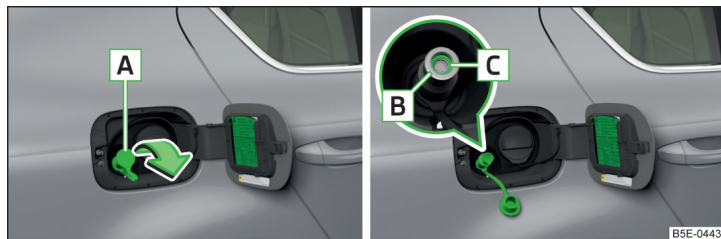

Fig. 175 Natural gas filler tubes
- Remove the cap » Fig. 175 in direction of arrow of the gas filler tubes .
- Check that the sealing ring » Fig. 175 has remained inserted in the gas filler tube.